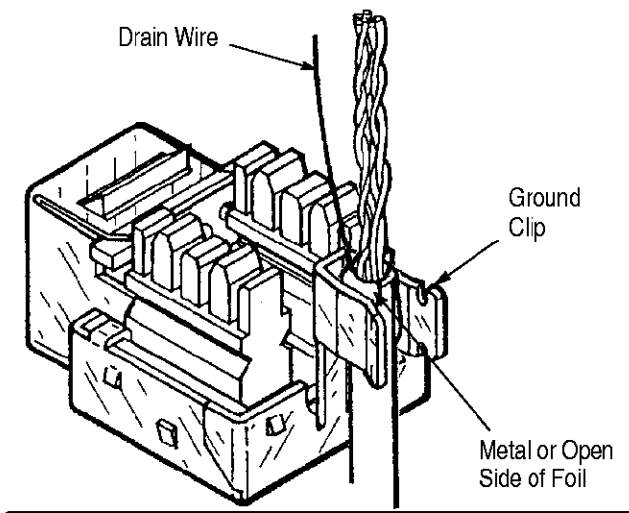

Figure 3
4. Align cable in ground clip – with open-side of foil facing out and end of cable jacket flush with top of clip. See Figure 3.